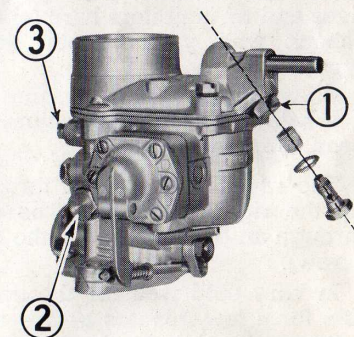

Figure 16
The Station-Wagon is fitted with a Solex 34 PBIC carburetor. This modern high precision unit will practically never lose its adjustment. The **original factory setting should never be changed.** They usually require no maintenance other than cleaning the filter screen when necessary. This is done by dipping the screen in gasoline and cleaning it off by an air blast. To remove the filter loosen nut **1** (fig. 16).
- the main jet **2** (fig. 16);
- the idling jet **3** (fig. 16).